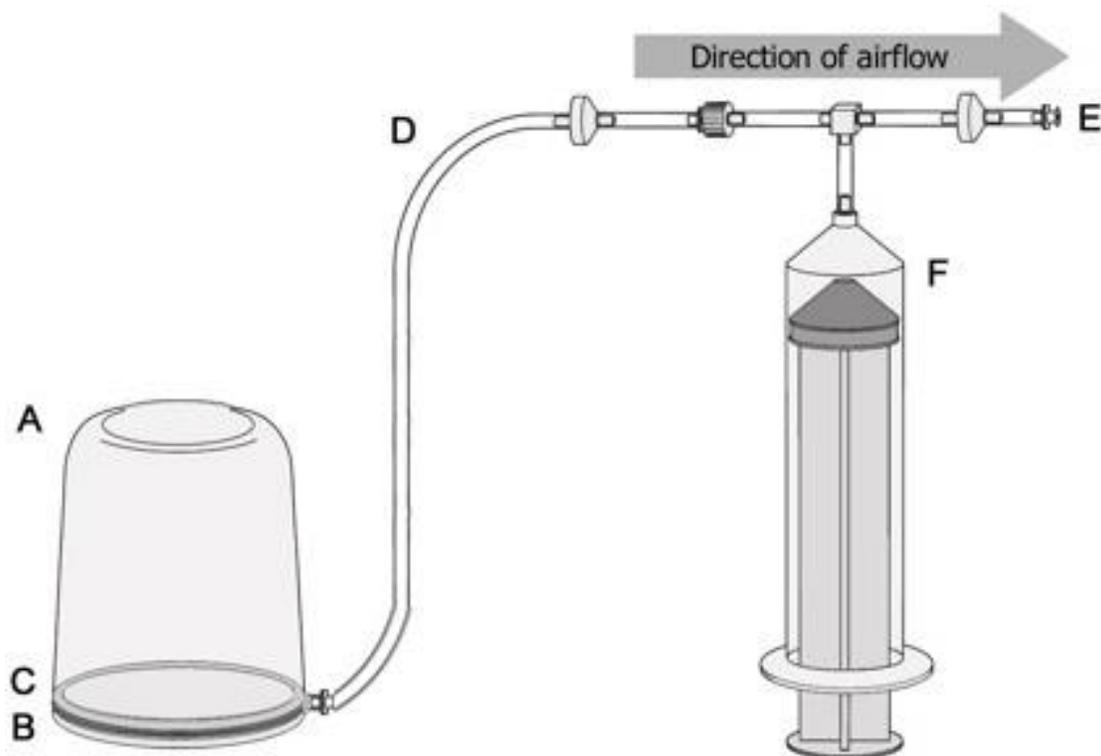

Figure 1.
1. Assemble the apparatus as shown in Figure 1.
4. **Without allowing air back into the bell jar**, disconnect the base hosing (D) from the syringe and exit hosing (E and F) but NOT the bell jar base. Place the bell jar, bottom plate (with "O" ring) and base hosing (D) on a balance. Make certain that hose (D) is not touching anything. Carefully find the mass and record it here:
5. Now, loosen the connection between hose (D) and the base, remove the hose, and then reconnect it. Did you hear the movement of air? What was the air doing?
6. Again place the bell jar, the bottom plate (with "O" ring) and hose (D) on the balance pan. Again, make certain that hose (D) is not touching anything. Find the mass and record it.
8. Reassemble the apparatus as in Figure 1. Pump the piston 30 times, as before.
9. Disconnect hose (D) from hose (E) but **NOT from the base**. In other words, do NOT let any air in the bell jar yet.
10. Obtain water in a pail or other convenient container. With one hand, carefully hold the whole bell jar apparatus under the water with the right side up (base plate on the bottom and the bell on the top). Now, carefully reach into the bucket with your other hand and while still holding the base plate firmly in place against the bell jar, undo the fitting holding hose (D) to the base. Describe what happened, and explain why.